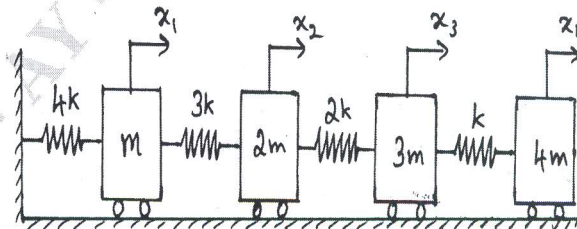

Fig Q9(a)
- 9 a. Using Stodola's method, determine the lowest natural frequency of the system shown in Fig Q9(a)